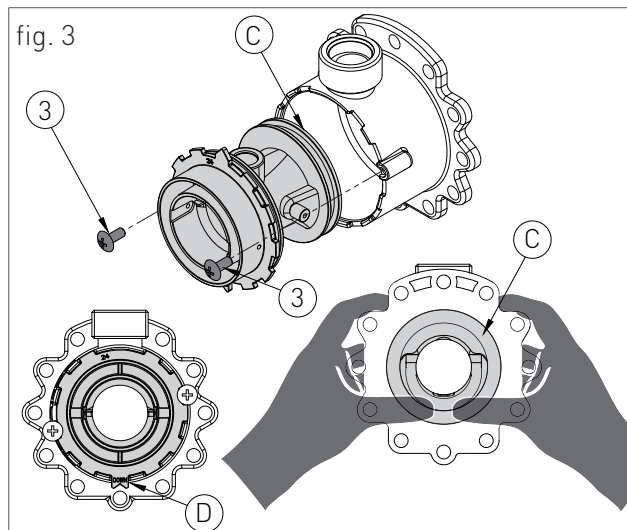

fig. 3
- › remove the two screws '3' (fig.3) and apply pressure on the rear side of venturi 'C' (fig.3);
- › replace the body venturi with the one suitable for the type of supply gas (cod. 30-00124 for Natural gas / cod. 30-00170 for Universal LPG) and make sure the tooth 'D' (fig.3) is adjusted downwards on the aluminium ring nut (see fig.3);